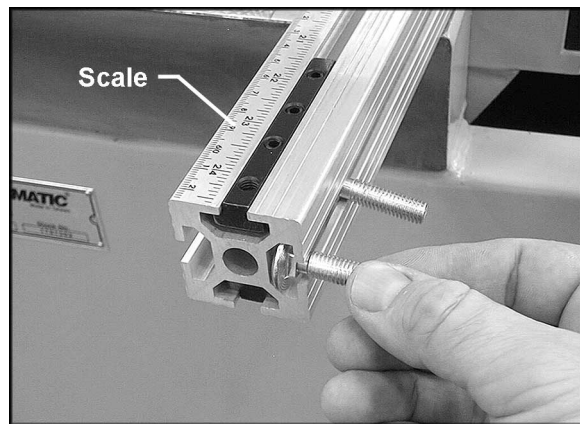

Figure 8
1. Orient the fence so that the measuring scale is facing up. See Figure 8.
3. Slide the heads of two carriage bolts into the channel on the fence (Figure 8). Note the orientation of the fence; the carriage bolts should be placed into the correct channel as shown in Figure 8.